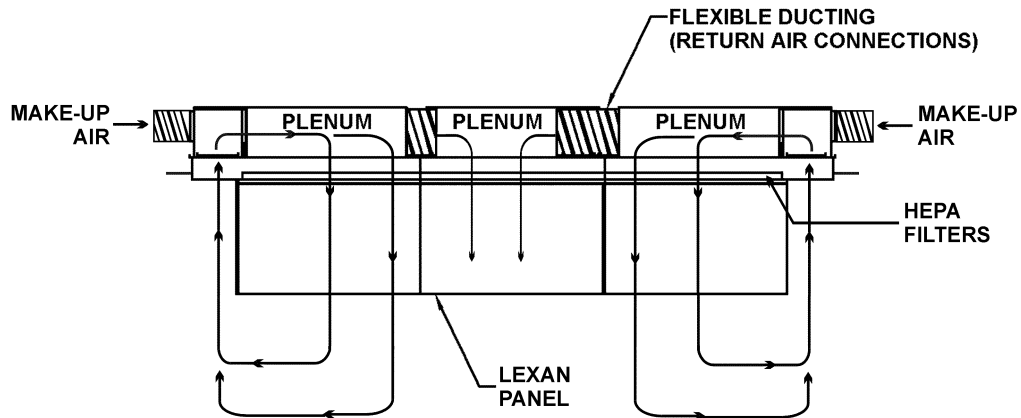

Figure 1: VOR-12 Surgery Isolator Airflow Pattern
- 1.2.3. Operating room air is drawn into the blower housing through air return grilles and is pressurized in the air plenum above the HEPA filters (See Figure 1.)
The ceiling canopy provides maximum contamination control by confining and controlling the flow of air throughout the critical surgical area. The relatively slow, ultra-clean air movement generates a uniform displacement or "piston effect" rather than a high velocity directed airflow (See Figure 1.)